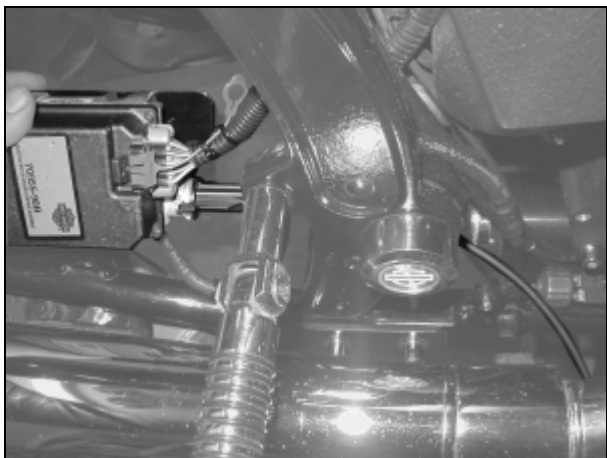

Figure 2. Main Cruise Module
3. See Figure 2. Uncoil cruise control cable attached to main cruise module. Feed cruise control cable out through right side frame, above lower frame member and under rear fork pivot shaft and exhaust. Temporarily leave cruise control cable protruding out right side of motorcycle. Connect 10-place female Packard connector on CCWH to main cruise module.